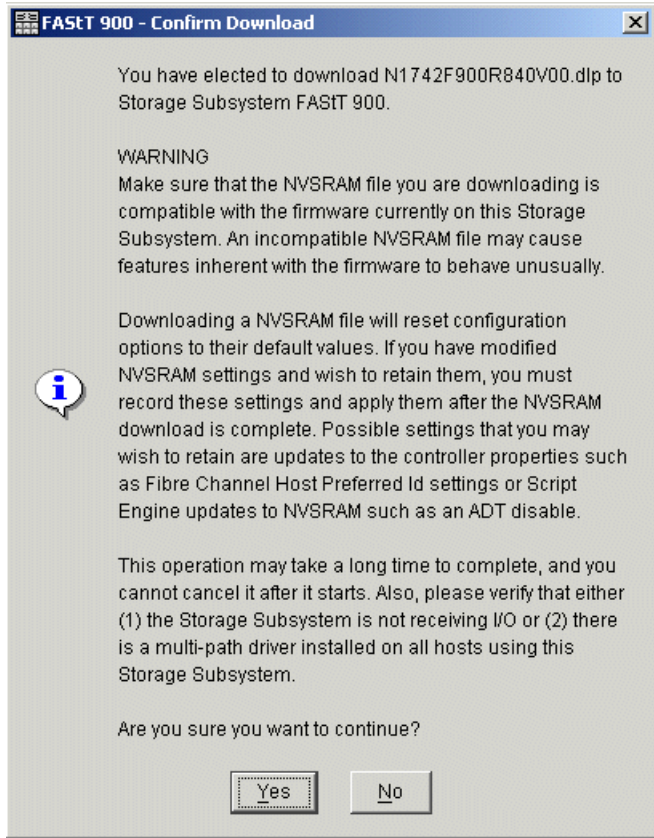

Figure 11-9 Confirm Download of the new NVSRAM
- c. The Confirmation window opens again to ensure that you are downloading a version compatible to the firmware you just downloaded. Click **Yes** to accept the requirements and continue (see Figure 11-9 on page 340).